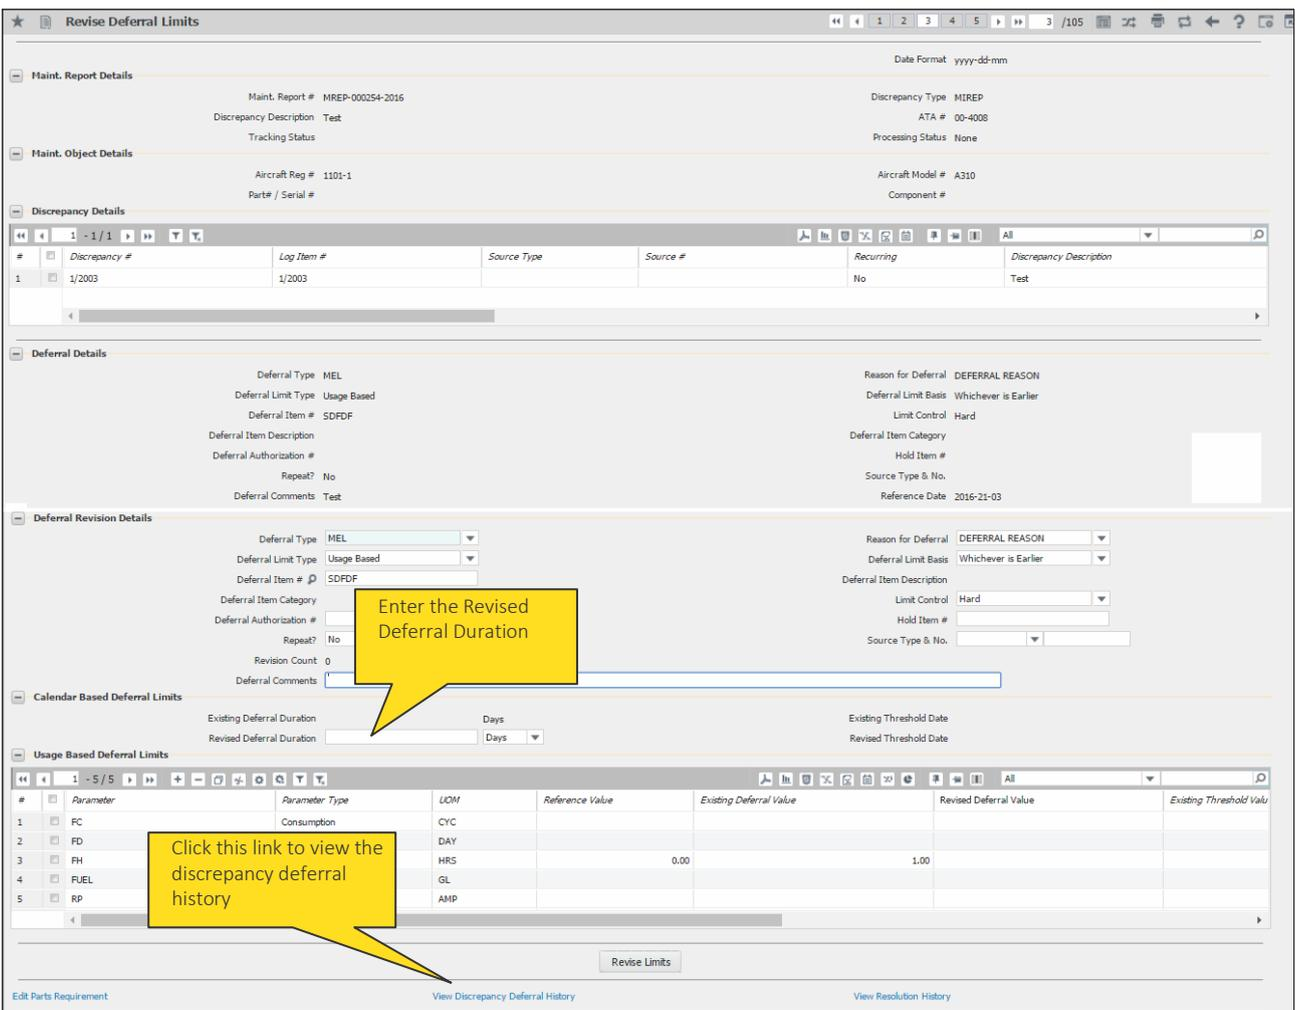

Figure 2.5 Revising deferral limits
3. Click the hyperlinked maintenance report for which the deferral limits must be revised. The **Revise Deferral Limits** page appears. *See Figure 2.5.*